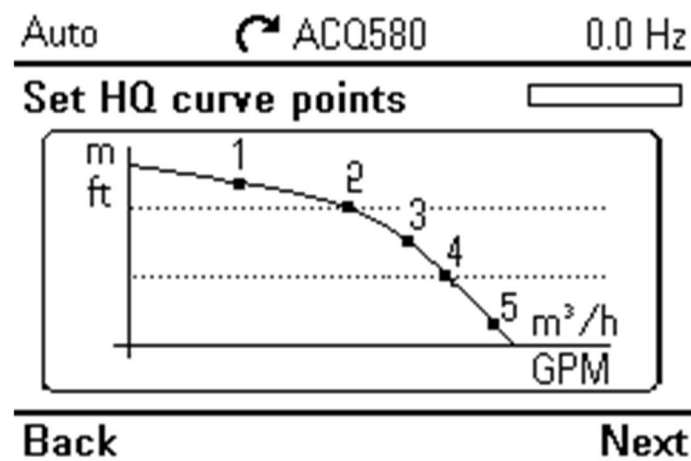

Figure 1. HQ pump curve of the pump should be clearly descending curve for best accuracy
2. The pump's HQ curve must not be too flat, it must be a clearly descending curve (see *Figure 1* below)